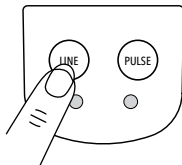

FIGURE 5
- Press the line mode button on the control panel to cycle through the active beams (Fig.5).